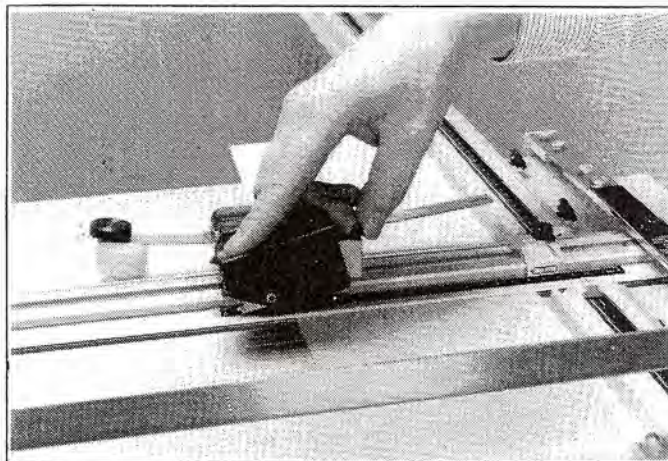

Fig. 3
- Anti-clockwise to decrease the depth.(Fig.3)